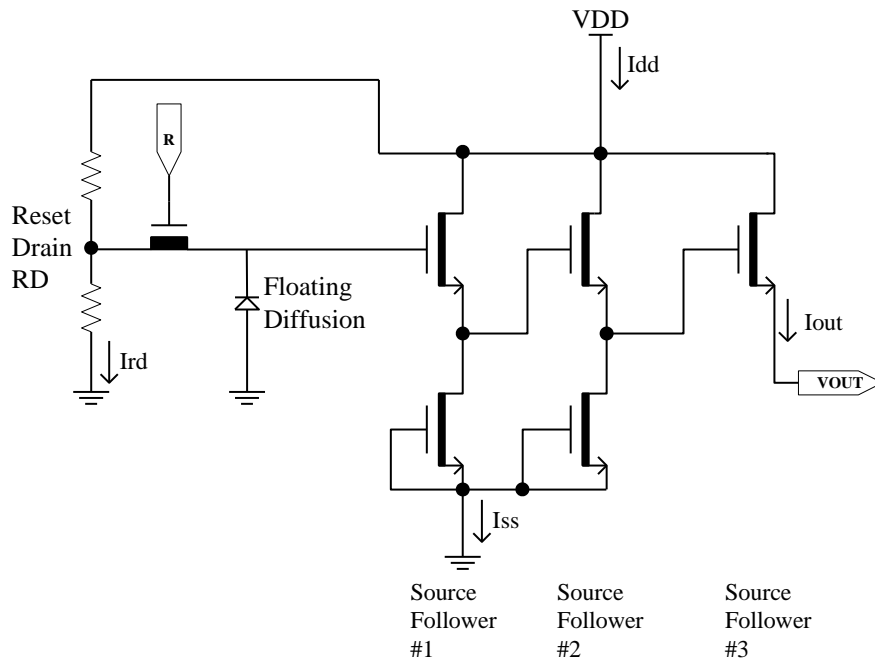

Figure 12: Output Amplifier
- Each output. See Figure 12. Note that the current bias affects the amplifier bandwidth.
1. The maximum DC current is for one output unloaded and is shown as Ird + Iss in Figure 12. This is the maximum current that the first two stages of one output amplifier plus the reset drain bias circuit will draw. This value is with Vout disconnected.